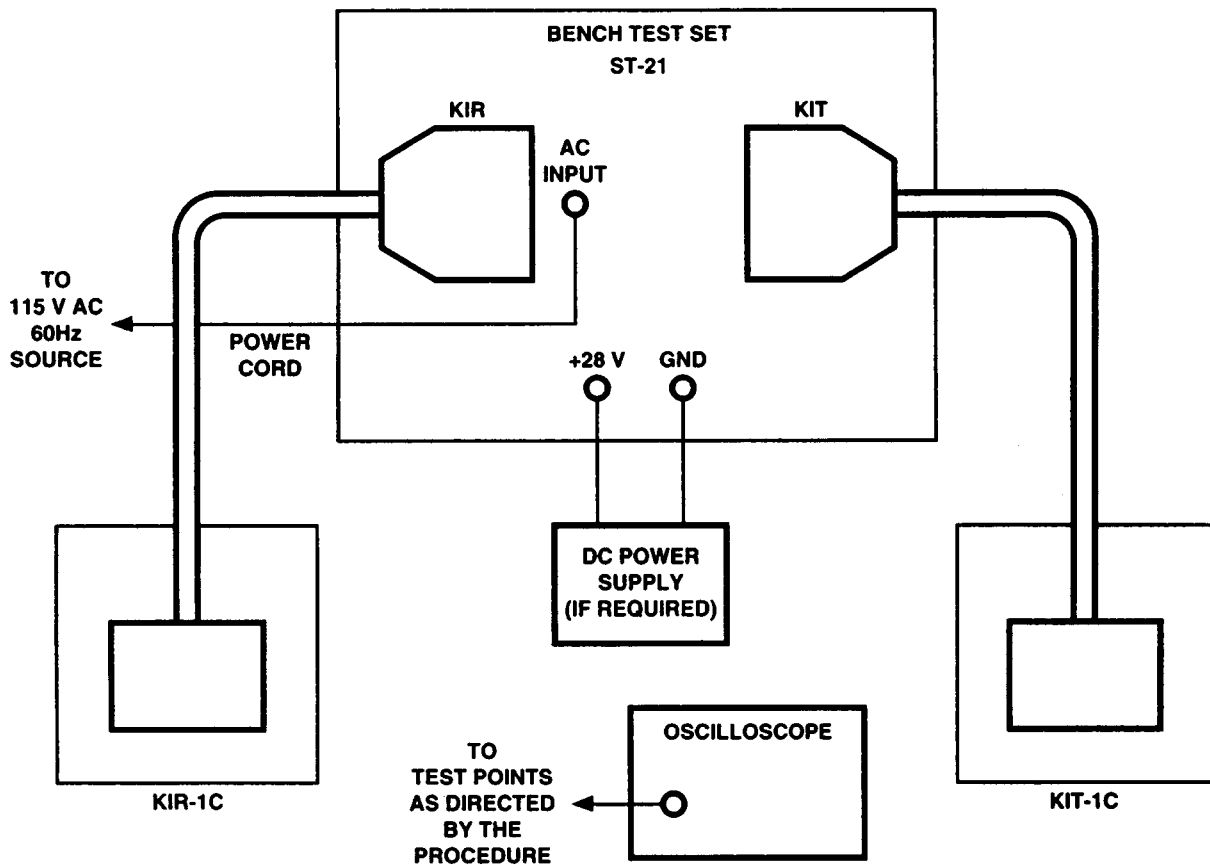

Figure 5-1. Operational Test Setup
g. Connect KIT-1C, KIR-1C, and ST-21 as shown in Figure 5-1. Be sure that you have a known good unit and the UUT connected. No warm-up period is required for the ST-21.